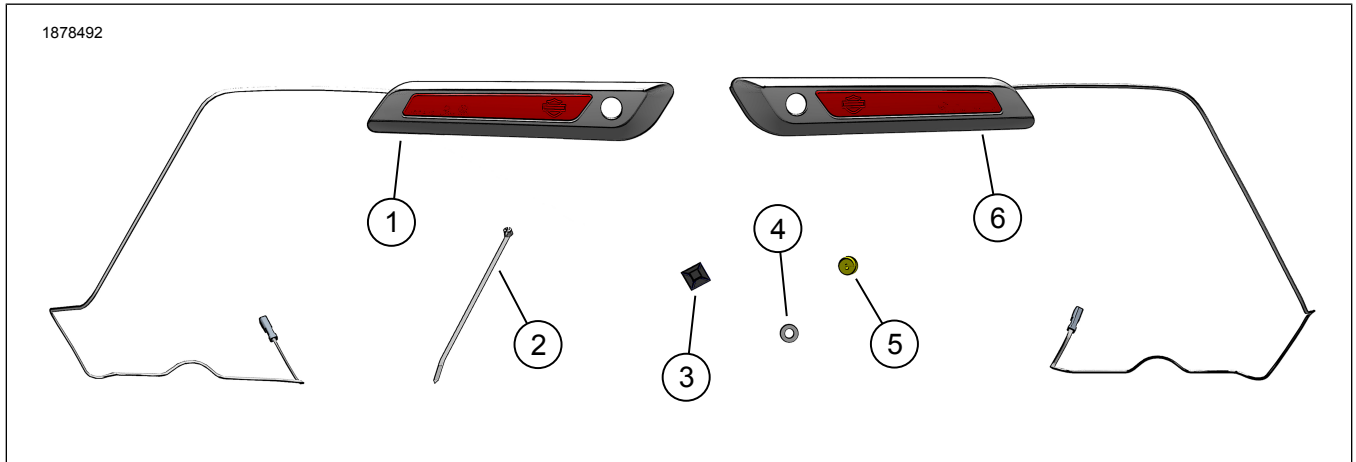
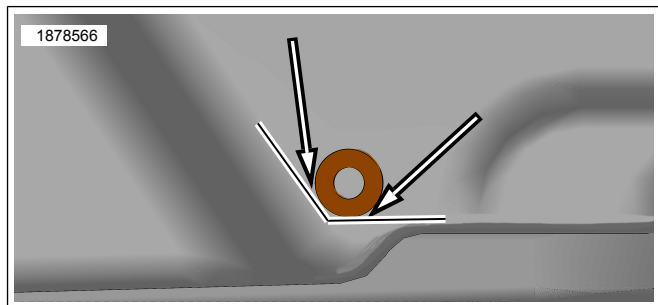
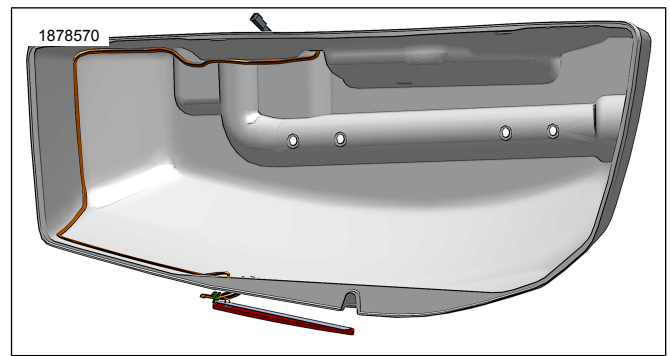

Figure 1. Kit Contents: Saddlebag Side Marker Lamp Kit
Figure 5. Saddlebag Lower Hole Drill Location
Figure 6. Harness Routing
- b. See Figure 1 and Figure 5. Use flat washer (4) from kit as a drill location guide by placing washer flat against saddlebag surface just touching the radius at side and bottom of saddlebag.
See Figure 1. and See Figure 6. Route harness inside saddlebag as shown securing with cable straps (2) and anchors (3) as required to maintain harness placement.